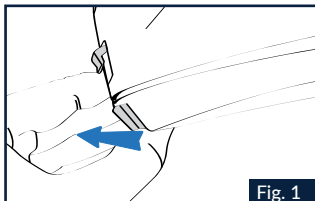

Fig. 1
1.1 Push the red release lever outwards by turning it with your thumb (Fig.1).